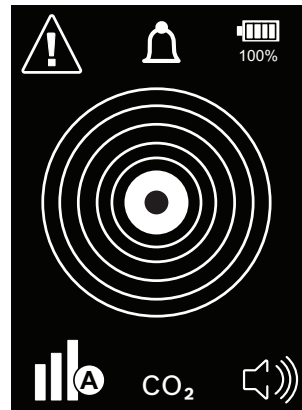

Fig. 4: Splash screen
- ⇒ *A splash screen will then display all icons (see Fig. 4).*